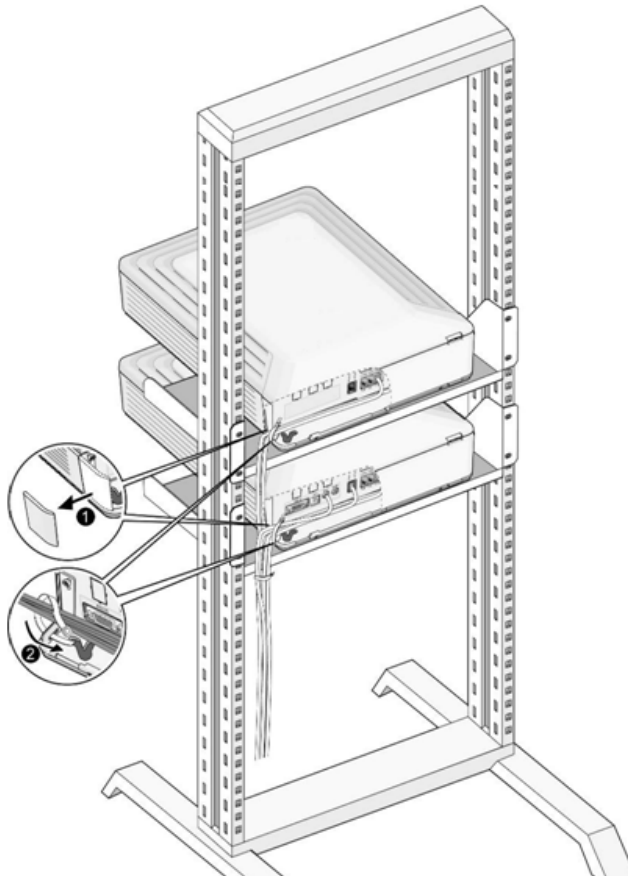

Figure 5-9 Rack Mount Wiring
2. Connect cables to the CO/STA and MOH/RS-232C ports, as shown in Figure 5-9.